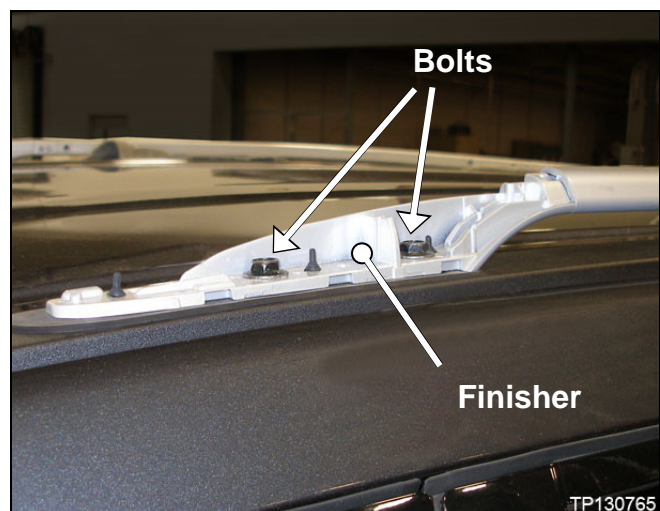

Figure 5
- The finisher shown in Figure 5 is commonly known as a “roof side rail.”